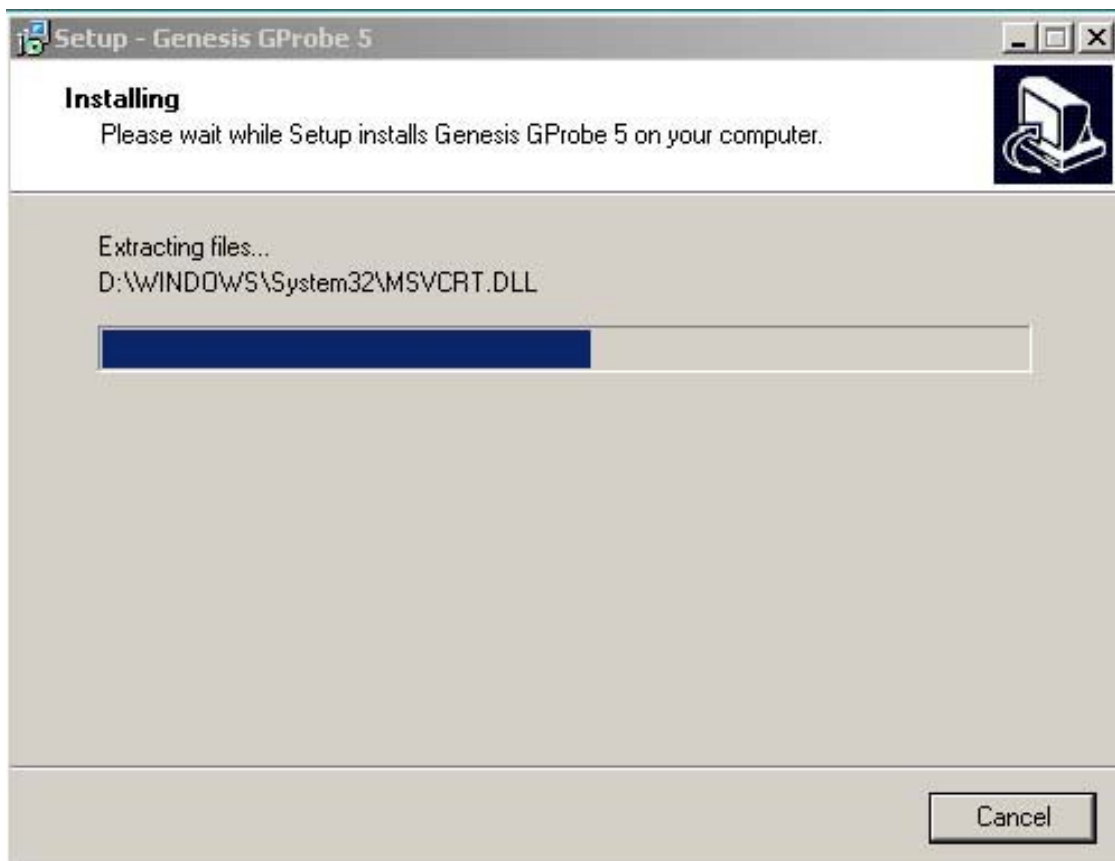

Fig. 0.6
0.6 Click “Next” to start the installation. See Fig 0.6